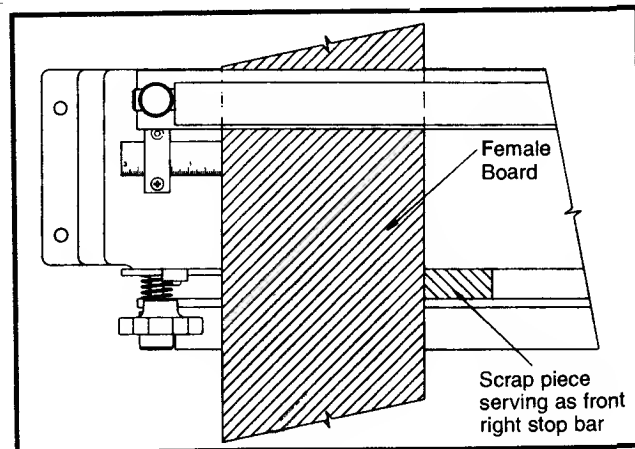

Fig. 47
3. Slide a scrap piece of material (Fig. 47) up under front clamp and to the right of the female board to act as a front right stop bar.